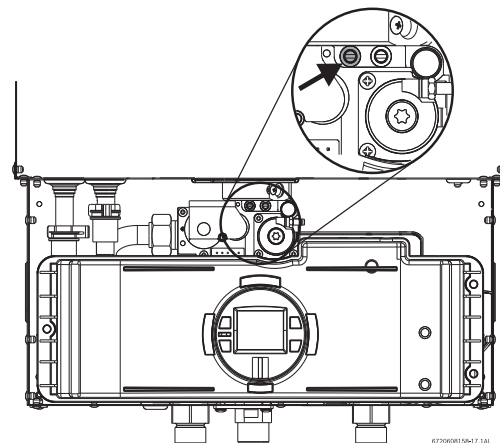

Fig. 35 Gas pressure test port (left tapping)
- ▶ Remove front cover and locate inlet gas pressure measuring point (see Fig. 35).